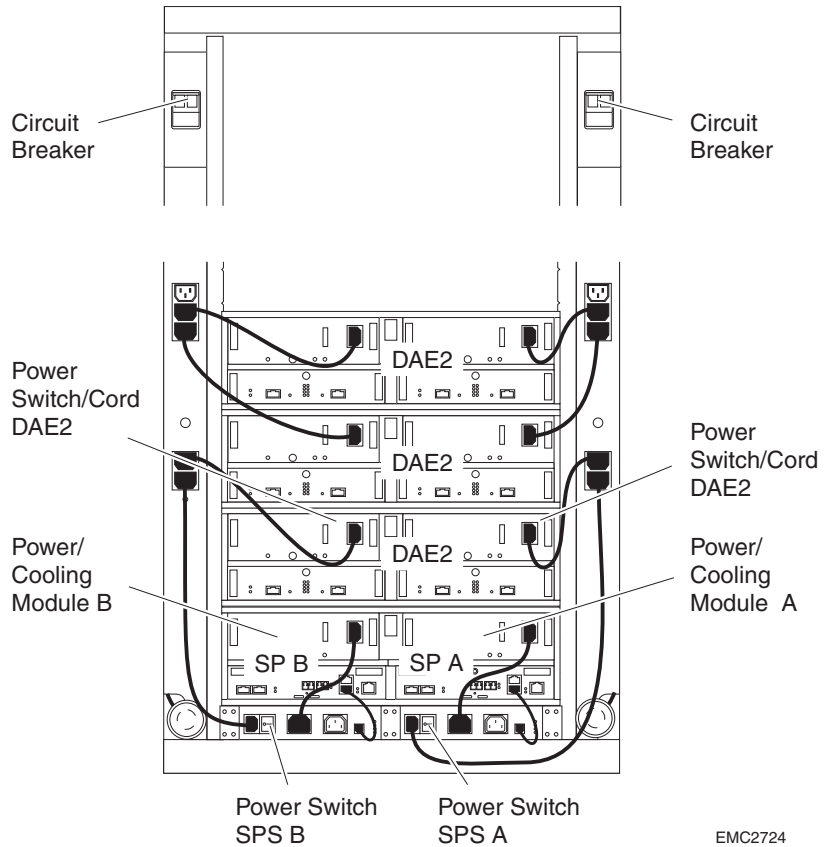

Figure 2-14 Powering Down a CX500 System with SPS (ac Power)
3. Use the power switch on each SPS to turn off power to the CX500/CX500i DPE2 and any other device connected to the SPS. See Figure 2-14.